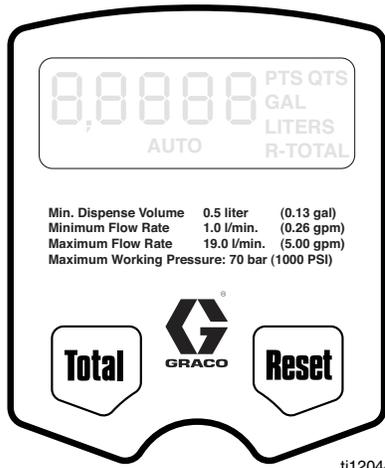

FIG. 9
## Setup Menus (FIG. 9)
1. If the display is blank (asleep), wake it up by pressing any button on the keypad (FIG. 9).
2. Press and hold the Total and Reset buttons simultaneously for approximately six (6) seconds to enter the Setup Menu (FIG. 9).